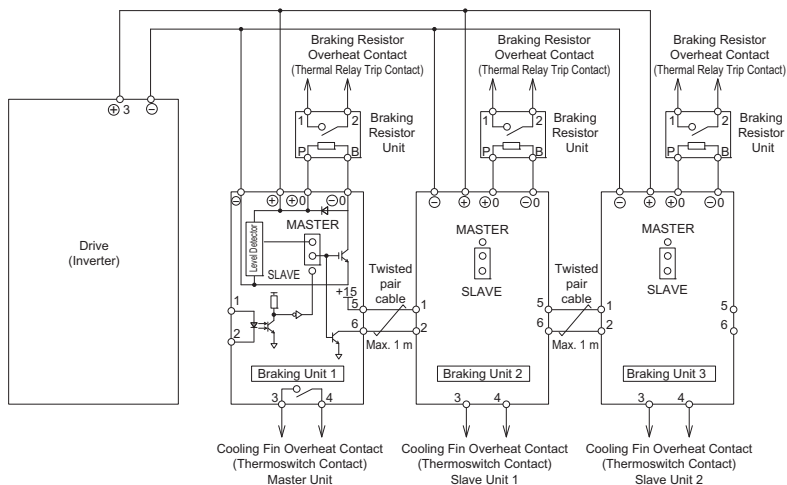

Fig. 23 Example of Parallel Connection of Three Braking Units
For using more than one parallel-connected braking unit, connect and select the connectors as follows. (See Fig. 23.)
- Properly connect the MASTER output to the SLAVE input. Refer to Fig. 23 for details.